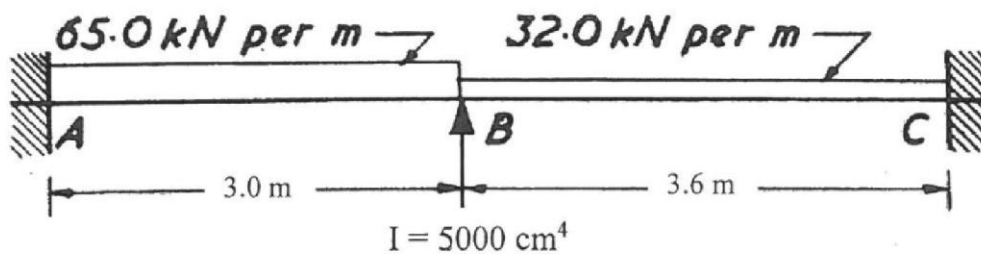

Figure 5
- (b) A continuous beam ABC (figure 5) of constant cross section is fixed in position and direction at point A and C, and simply supported at point B. The beam is loaded as shown below: